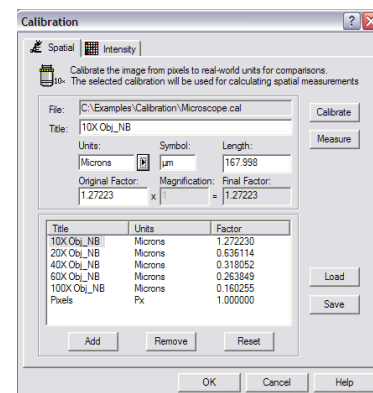

fig.1
4. Click **Calibrate** in the Calibration window (**fig.1**). Move the Calibration window to the side so you can see the image. Move the cursor to the start of a known distance; click and drag a line to span the distance you wish to measure, as shown in (**fig.2**)